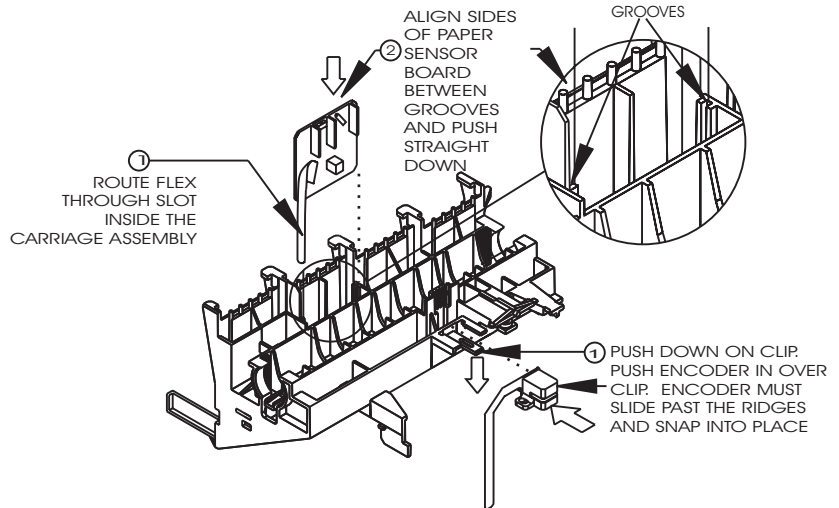

Figure 5-15. Paper and Encoder Sensor Installation.
- c. Grasp the Paper Sensor between thumb and index finger and guide the sides of the board into the grooves on each side of the opening. See Figure 5-15.